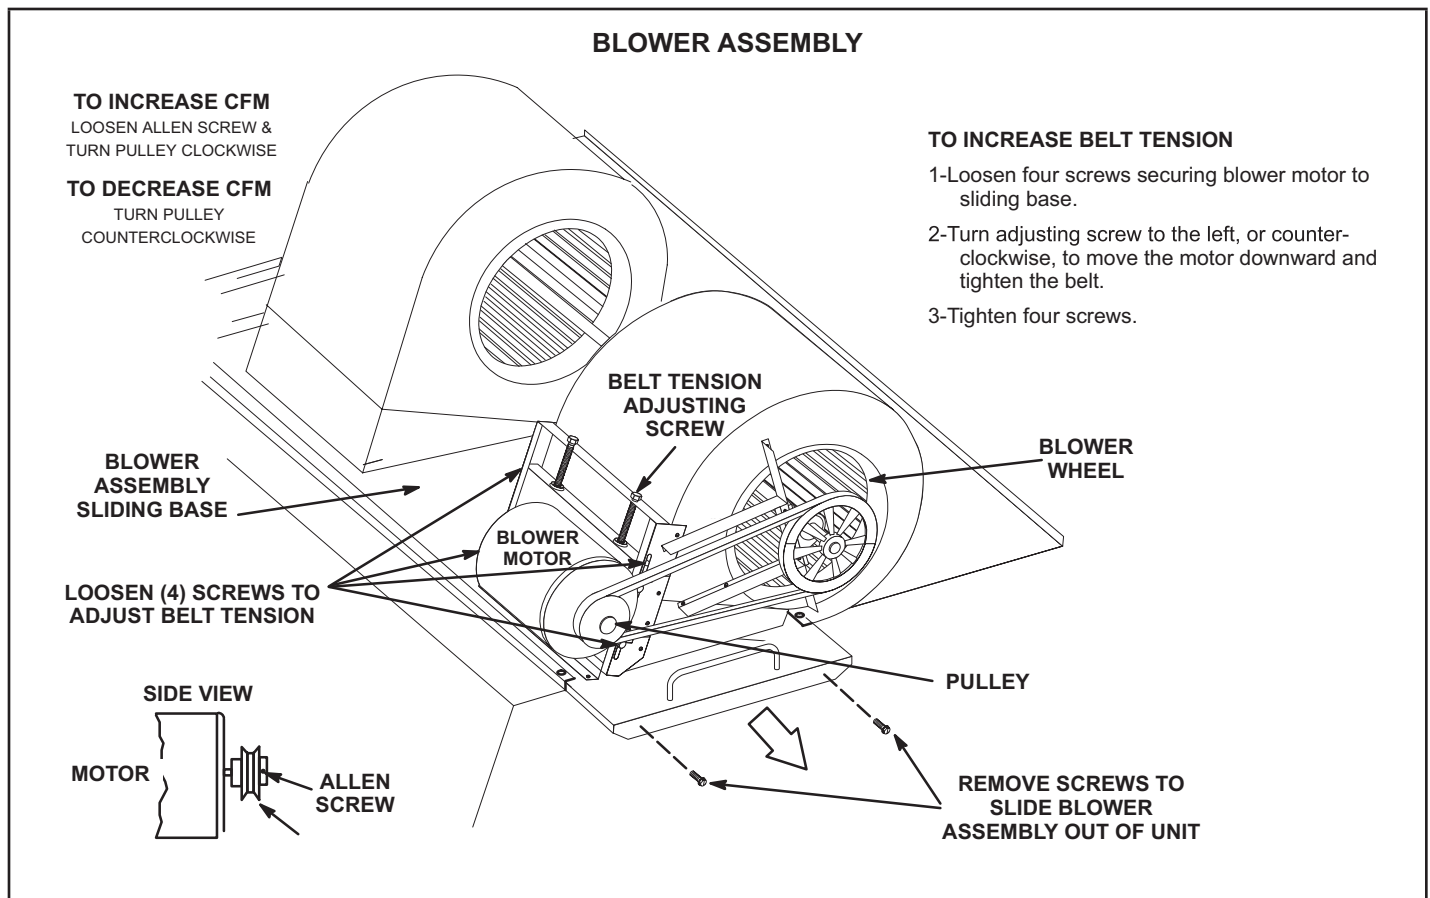

FIGURE 21
- 2 - Remove screws on either side of blower assembly sliding base. See FIGURE 21.
4 - The blower RPM can be adjusted at the motor pulley. Loosen Allen screw and turn adjustable pulley clockwise to increase CFM. Turn counterclockwise to decrease CFM. See FIGURE 21. Do not exceed minimum and maximum number of pulley turns as shown in TABLE 5.
- 1 - Loosen four screws securing blower motor to sliding base. See FIGURE 21.